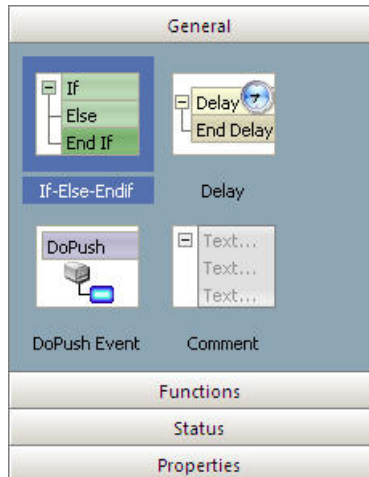

FIG. 226 CodeBuilder - Event window
6. Double-click on an element in the *General*, *Function* or *Status* tabs to add it to the bottom of the macro steps in the Event window. Then, click and drag to reposition the step in the macro as desired (FIG. 226).